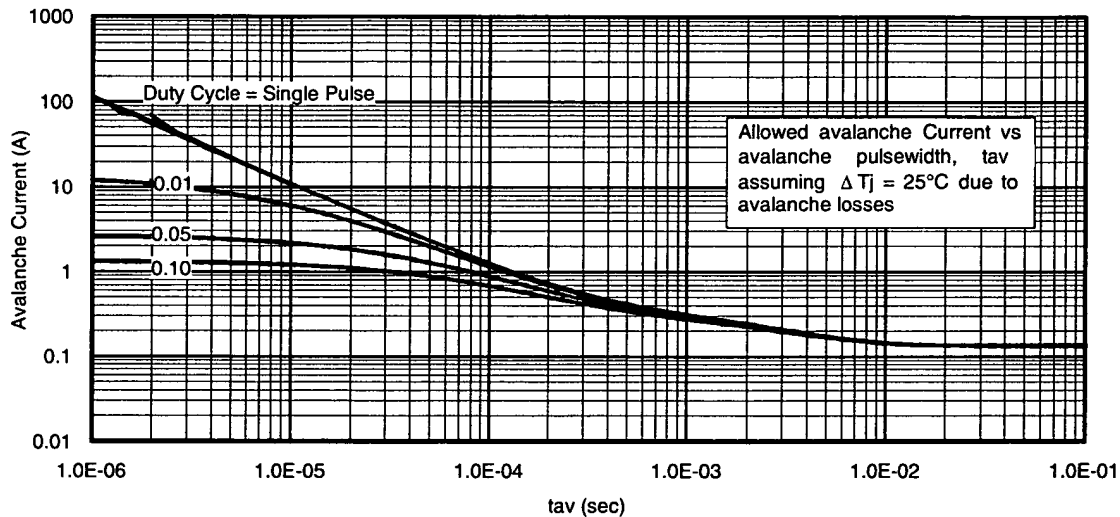

Fig 14. Typical Avalanche Current Vs. Pulsewidth
- ① Repetitive rating; pulse width limited by max. junction temperature.
② Starting $T_J = 25^\circ\text{C}$, $L = 1.62mH$, $R_G = 25\Omega$, $I_{AS} = 11A$.
③ Pulse width $\leq 400\mu s$; duty cycle $\leq 2\%$.
- ④ R_G is measured at T_J of approximately 90°C .
⑤ Limited by T_{Jmax} . See Figs. 14, 15, 17a, 17b for repetitive avalanche information.
Notes on Repetitive Avalanche Curves , Figures 14, 15:
7. ΔT = Allowable rise in junction temperature, not to exceed T_{jmax} (assumed as 25°C in Figure 14, 15).